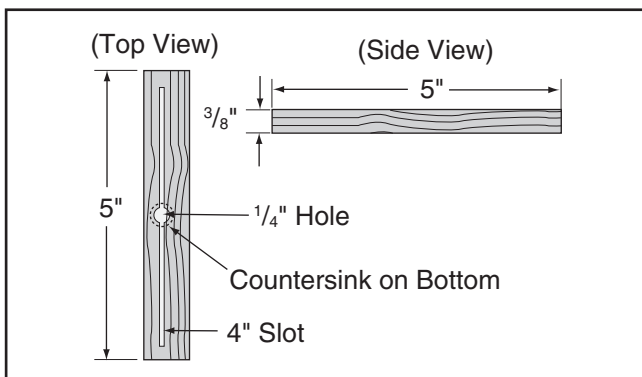

Figure 78. Miter bar pattern.
5. Cut a miter bar that will fit in the table miter slot approximately 5" long, as shown in **Figure 78**.